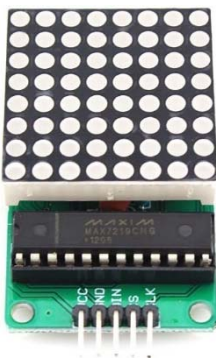

Fig 6: 8X8 dot-matrix LED.
- Lines 5 to 12 define the pin connections according to Fig 6.
Except from the 7-segment LEDs that can show a limited number of characters, the dot-matrix LEDs are very popular for displaying and scrolling text messages. Fig 6 shows such a module which is a serially driven 8x8 LED Matrix powered by MAX7219. The 8x8 LED Matrix is easy to use, because only needs three data lines and two power lines.